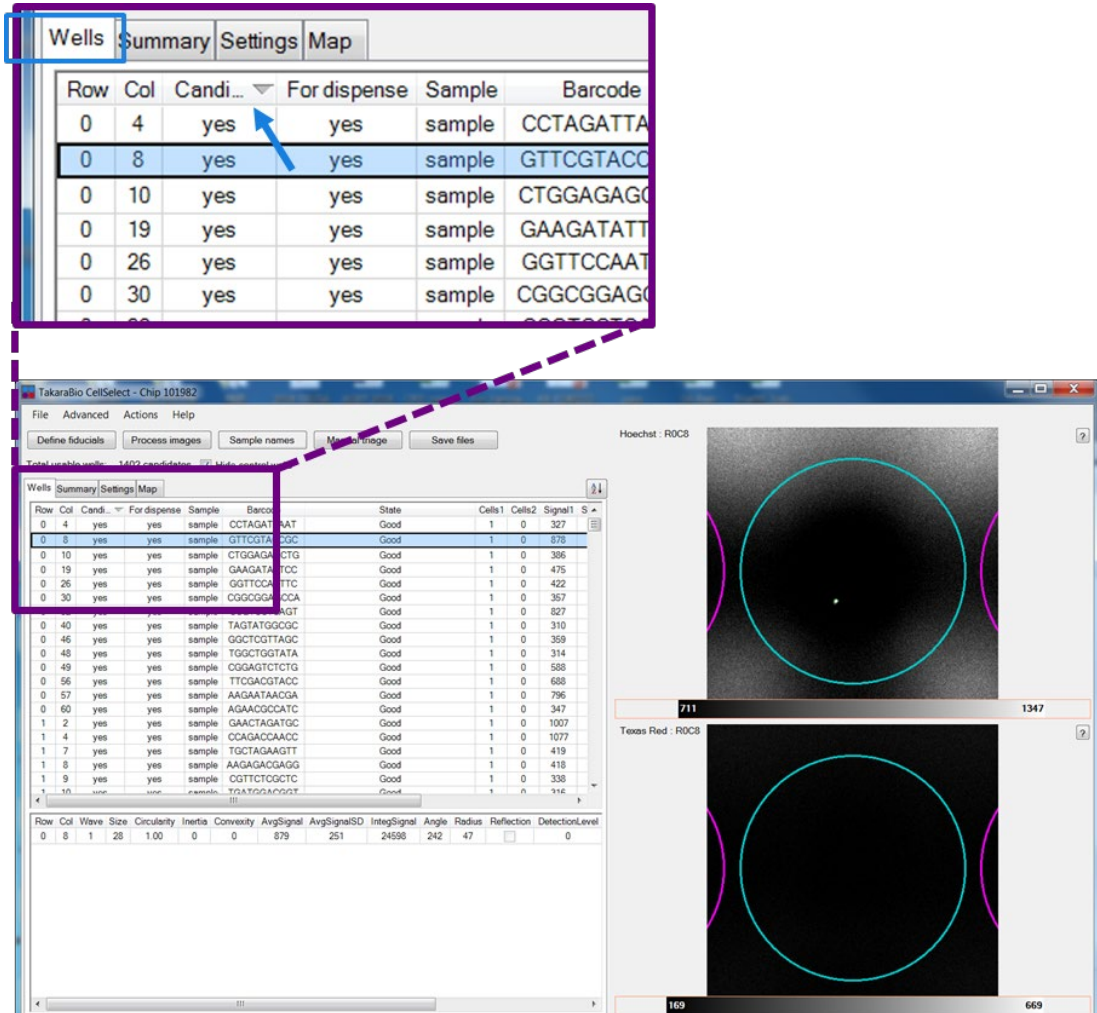

Figure 32. Sorting the candidate column to consolidate all selected nanowells to the top of the table.
- Click the *Wells* tab and sort the nanowell statistics in the “Candidate” column by clicking the **Candidate** heading (see Figure 32, below). The software will sort and consolidate all selected nanowells (i.e., “candidates”) to the top of the table.
- If desired, manually inspect the selected nanowells. Click any row for closeup views of the selected nanowell in both the Hoechst and Texas Red channels (top and bottom single-well images, respectively, in Figure 32, above).